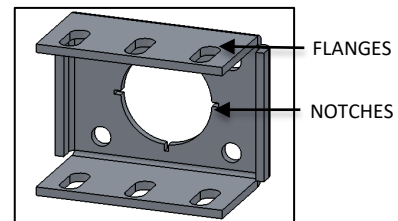

FIG. 8 - ANCHOR BRACKET DETAIL
4. Before installing the BRACKETS make sure BRACKET FLANGES are running same direction the fixture is to be mounted. Use NOTCHES as shown in FIG.8 to align BRACKET for marking ANCHOR LOCATIONS